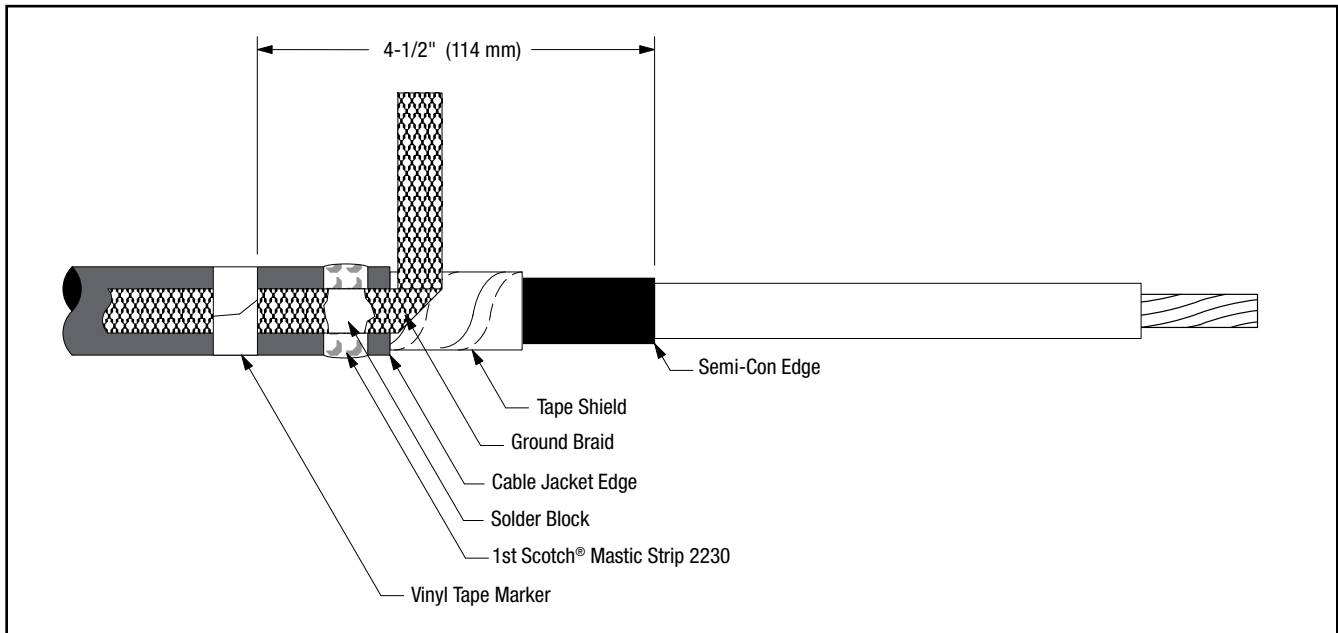

Figure 3
- 3.2 Position pre-formed ground braid with short tail over tape shield directly adjacent to cable jacket cut edge. PLEASE NOTE: The ground braid needs to make full contact with the metallic tape shield. Position long tail of ground braid, extending over cable jacket with solder block over mastic strip (Figure 3). Secure ground braid to cable jacket 4-1/2" (114 mm) from cable semi-con edge using vinyl tape (Figure 3).